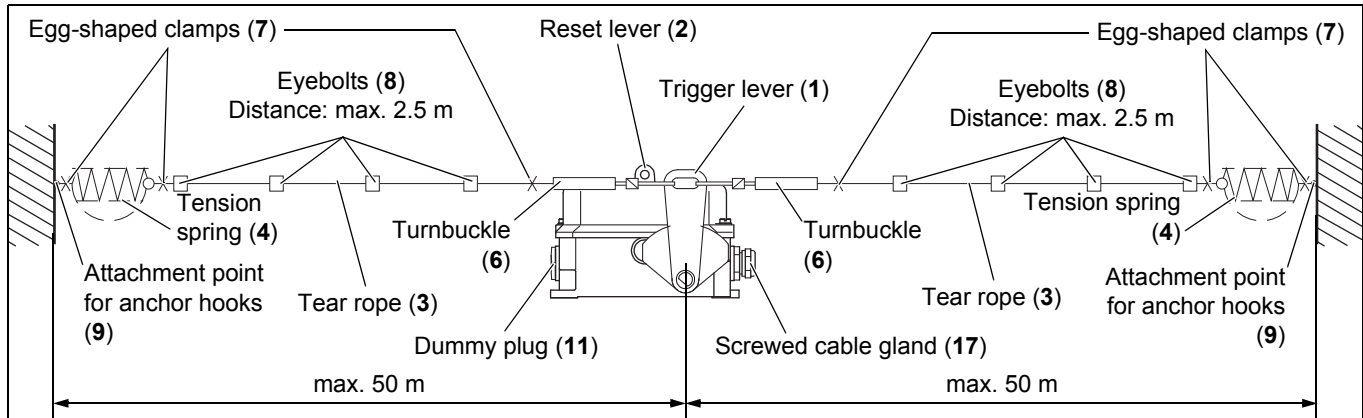

Fig. 6-1: Mounting on the conveyor structure
2. Remove the turnbuckles (6) out of the trigger lever (1) (see fig. 6-1).